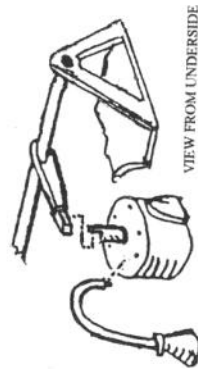

Fig. 16. VACUUM CYLINDERS, ASSEMBLY
r. Returning to the Brake 'V' hangers in the centre of the underframe, loosely fit the appropriate cross shafts, Figs. 6. & 6a. or 7. (The cross shaft with two parallel crank arms (A30 and A28 are different) is fitted to the centre 'V' hanger, loco end). Align the Vacuum Cylinders with the long crank arm and fix the Cylinders (5min. epoxy is suggested). Align the cross shafts and fix (Figs. 6. & 6a. or 7.), also fix the vacuum pipes to the cylinders, Fig.16.